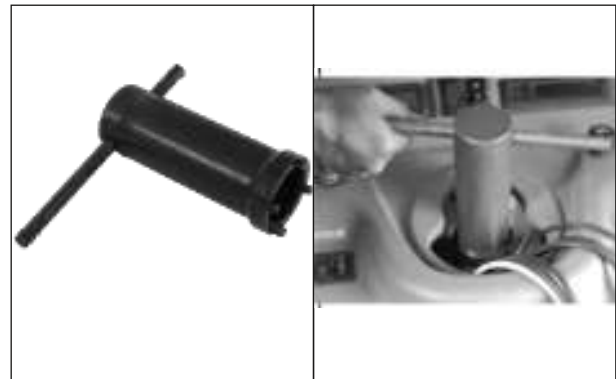

Fig. 1.25
- Insert the tool as shown in figure and apply the load with the help of tommy rod.(Fig. 1.25)